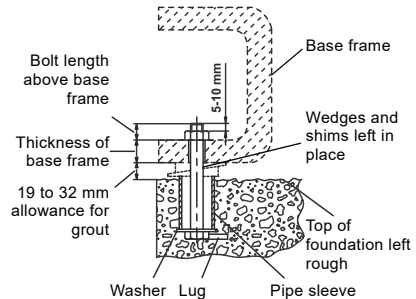

Fig. 4 Typical anchor bolt design
2. Embed anchor bolts in the concrete as shown in fig. 4. Allow enough bolt length to reach through grout, shims, lower base frame, nuts and washers.